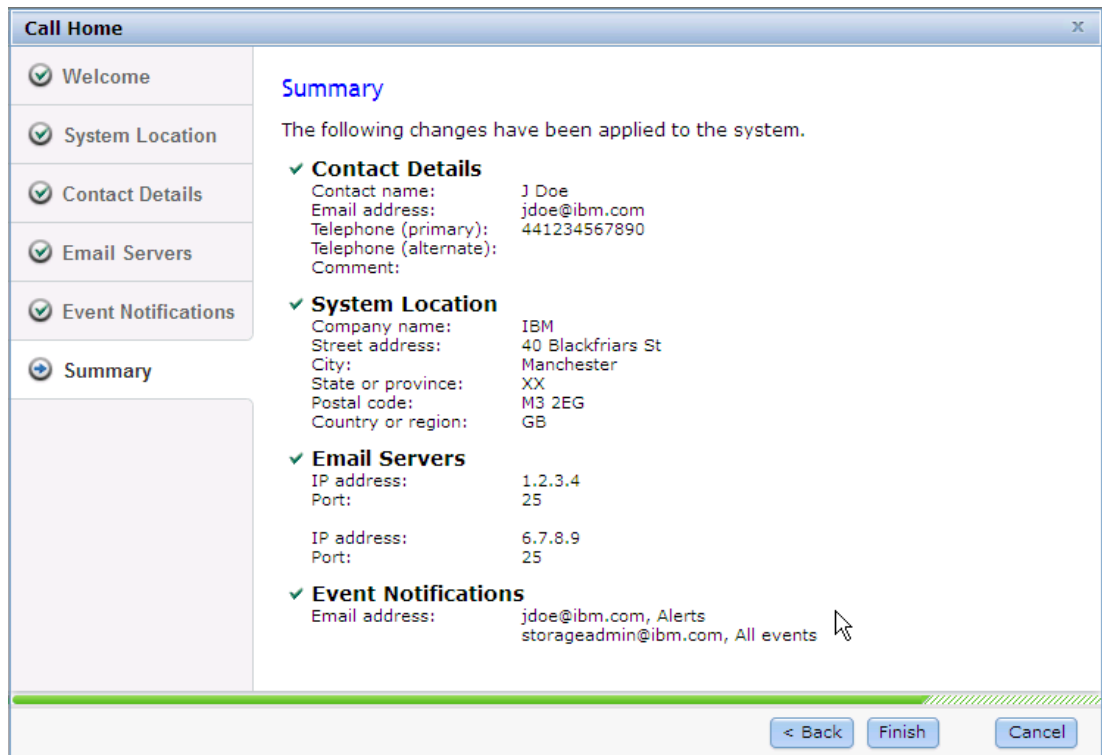

Figure 2-32 Event Notification summary
2. Once you have specified your event notification, select Apply and Next. This will give you the screen shown in Figure 2-32.